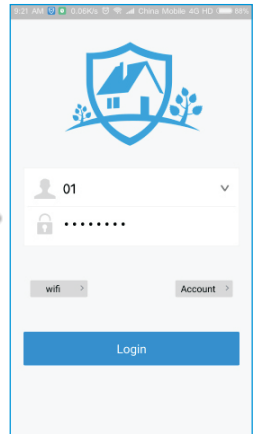

Figure 8-6
D. After save, return to login interface, then display the registered account. (Figure 8-6)